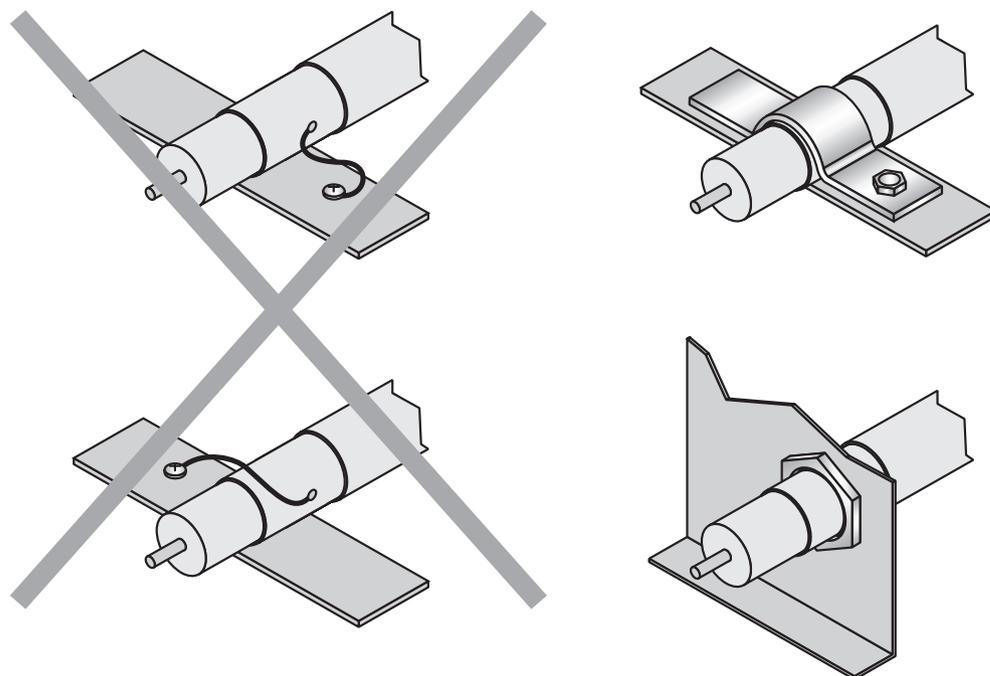

Figure 5: Make an extensive and low-impedance ground connection of the cable shield in the control cabinet.
- The cable shield in the control cabinet must be connected to a large area of the signal ground (see figure 5).